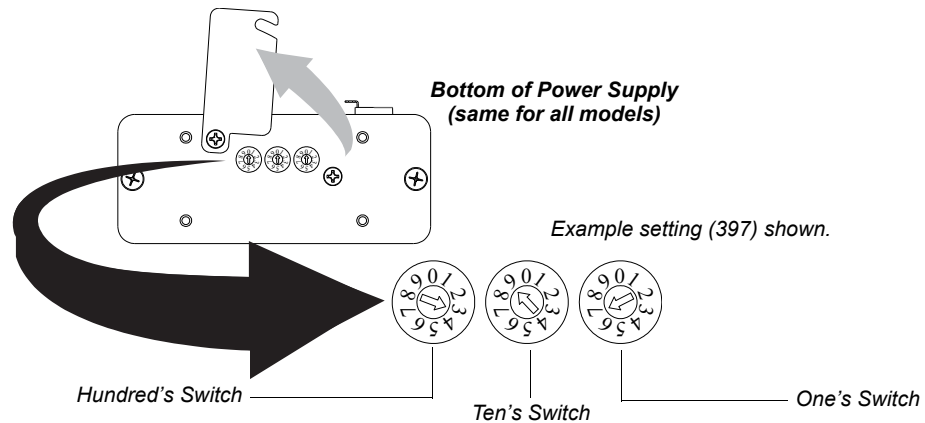

Figure 6: Gallery Gobo Rotator Address Switches
The Gallery Gobo Rotator can be controlled via DMX or set to a specific setting for manual operation by the rotatory address switches at the bottom of the unit's power supply. The three rotatory switches are described in Figure 6.
- Step 1. At bottom of power supply unit as shown in **Figure 6**, loosen, but do not remove, both screws securing rotatory switch door to unit. Swing door open.